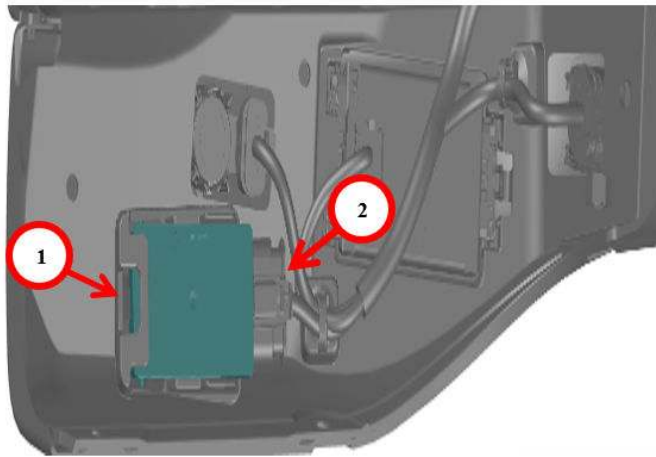

Fig. 3
4. Depress the shoe retainer to release and remove the Smart Phone As A Key (SPAAK) module Fig. 3.
13. Install the SPAAK module Fig. 3.